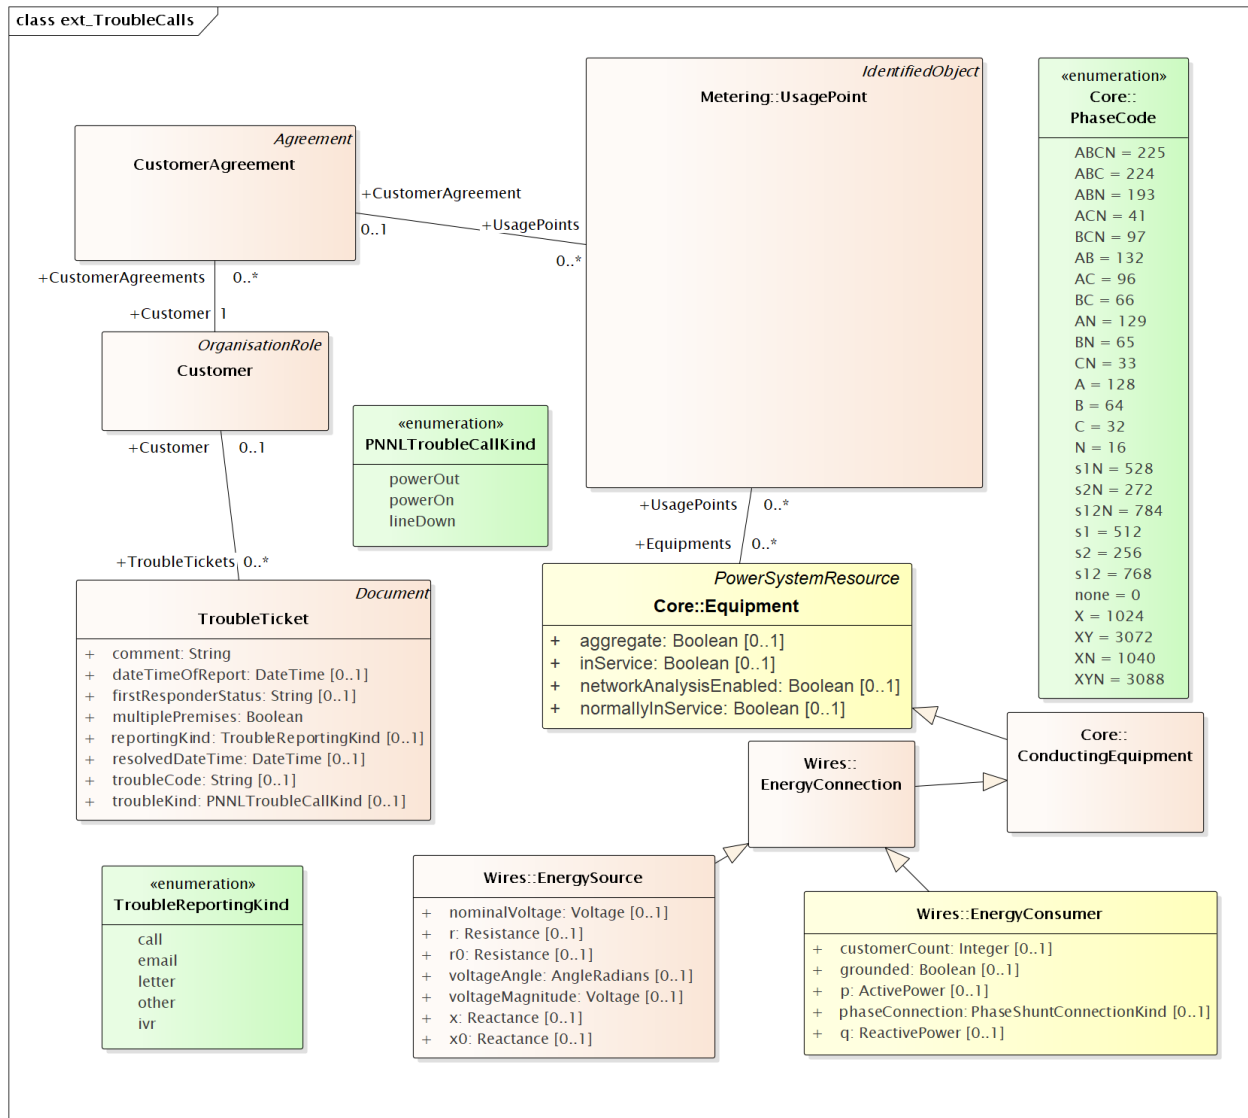
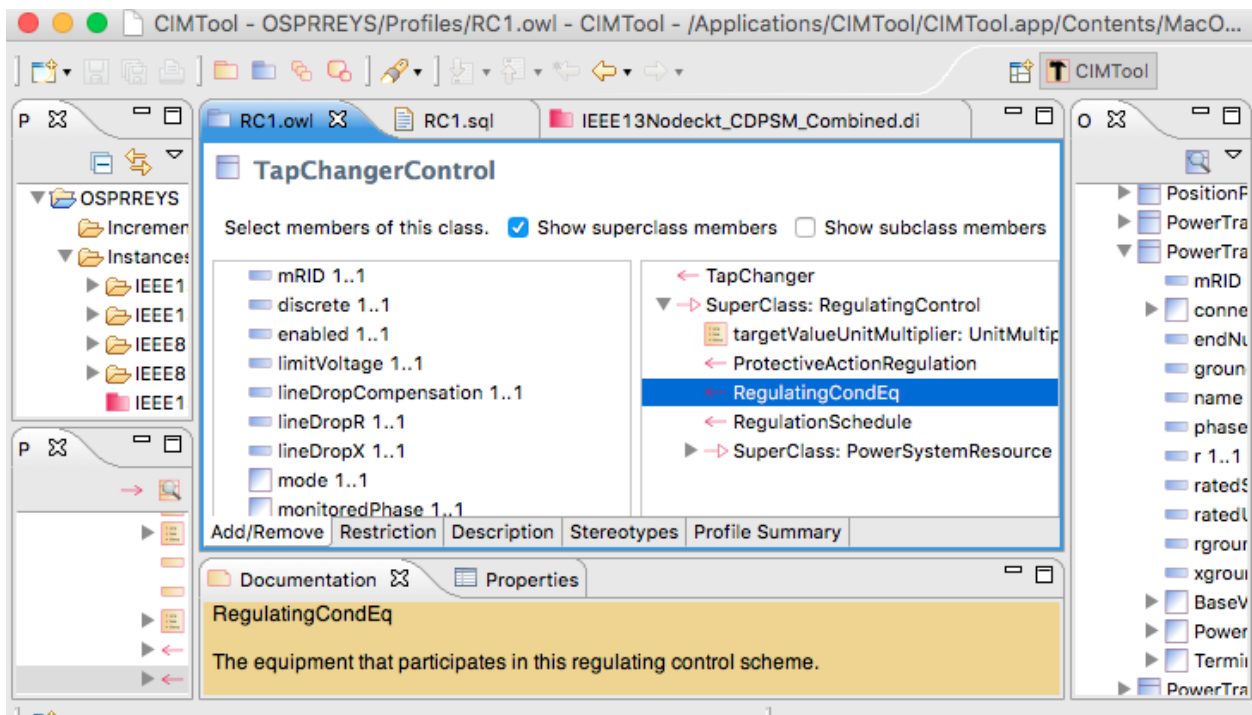

Figure 39: Trouble Calls route through Metering Usage Points to EnergyConsumers
Figure 40: Editing a Profile in CIMTool
Figure 39 shows how emulated trouble calls will be connected to loads (EnergyConsumers) for test scenarios. The TroubleTicket is associated with Customer, CustomerAgreement and UsagePoint, which can then be associated to Equipment or any of its descendants. Figure 39 shows the linkage to EnergyConsumer or EnergySource, but it can also be linked to RegulatingCondEq (e.g., rotating machine and inverter-based DER). There are many attributes of Customer, CustomerAgreement and UsagePoint that are not yet used in GridAPPS-D, and not shown in Figure 40. These would be important for future metering and customer management applications. For now, the only TroubleTicket attributes to be used are `dateTimeOfReport`, `resolvedDateTime` and `troubleKind`. The `PNNLTroubleCallKind` was added because the existing `troubleCode` attribute is a non-standardized String. However, the comment attribute could be used for optional comments on each TroubleTicket.
2. **Minimum cardinality:** For TapChangerControl instances, the inherited RegulatingControl.RegulatingCondEq association is not specified. This is not really an error, as the association is only needed for shunt capacitor controls. Figure 40 shows that RegulatingCondEq was not selected for TapChangerControl in the profile, so this may reflect a defect in the validation code. Efforts to circumvent it were not successful.
As shown at the top of Figure 40, CIMTool builds *RC1.sql* to create tables in a relational database, but the syntax doesn't match that required for MySQL. The following manual edits were made: